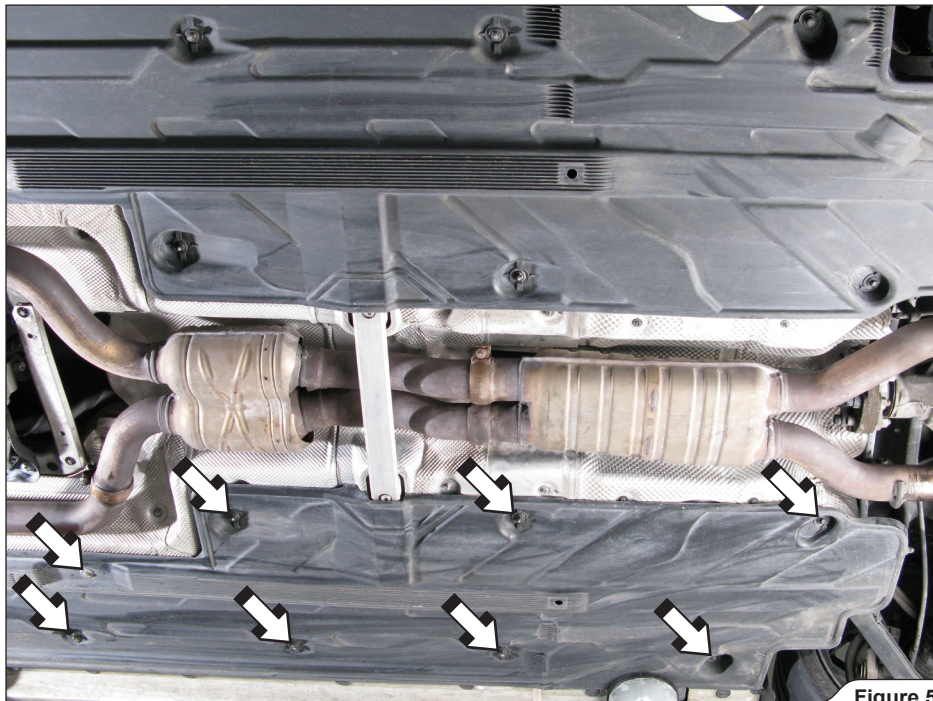

Figure 5
4. **For Evolution only:** unscrew the marked bolts and nuts of chassis panels on both sides of the vehicle (**Figure 5**).